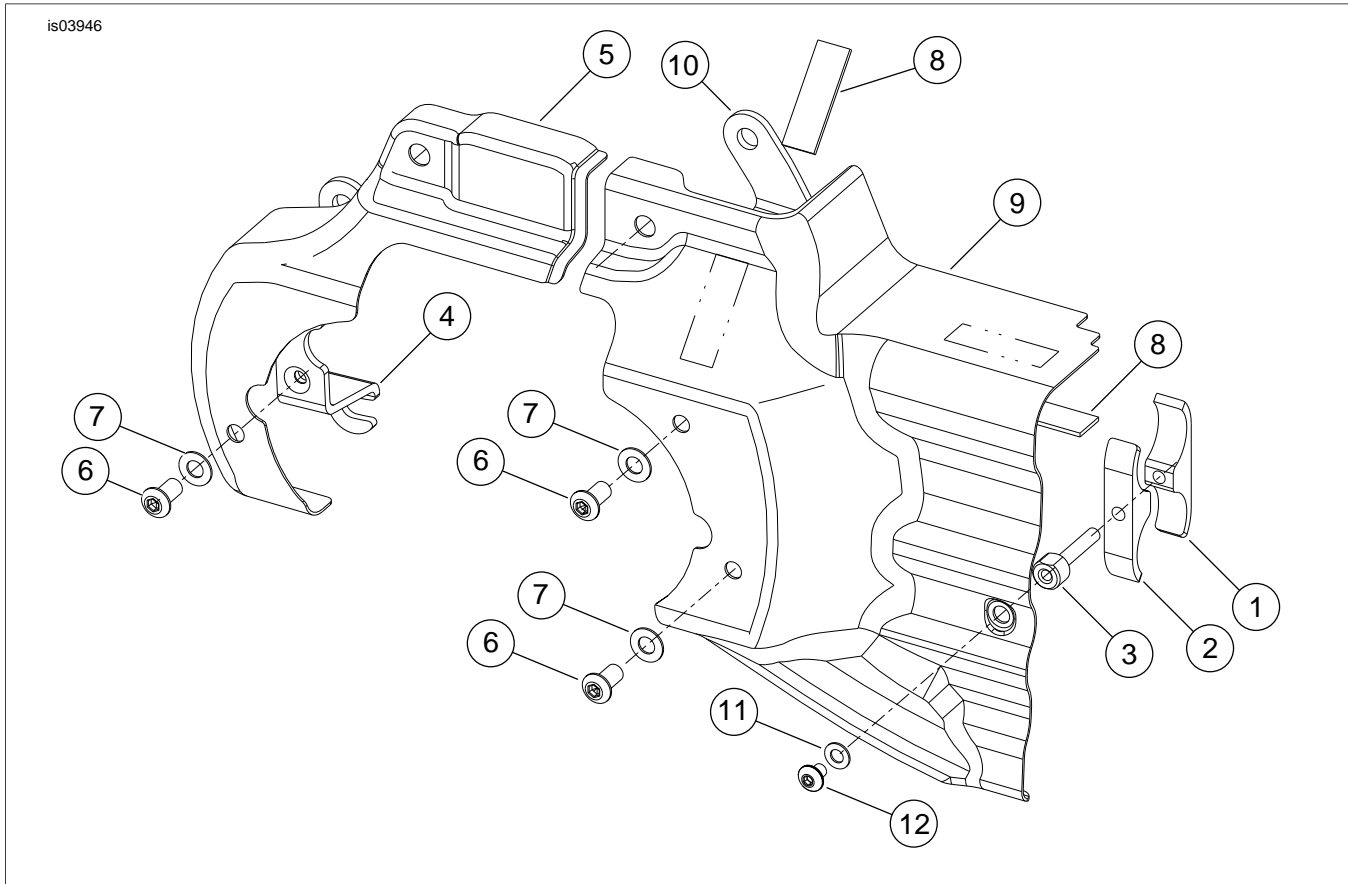

Figure 3. Engine/Transmission Interface Cover
See Figure 3 and Table 1.
3. See Figure 1, Figure 3 and Table 1. Apply a small amount of Loctite 243 (Blue) to threads of removed and loosened screws from Step 2. Install rear bracket (4) to transmission bearing housing loosely with screw (A). Swing hook of bracket to screw (B) and secure in place. Tighten screws to 13-18 ft-lbs (17.6-24.4 Nm).
5. See Figure 1, Figure 3 and Table 1. Install front bracket (10) to transmission bearing housing with screws (C) and (D) and fasten finger tight. Tighten screw (D) to 13-18 ft-lbs (17.6-24.4 Nm). Remove and retain screw (C) for later use.
6. See Figure 2 and Figure 3. Position inner bracket clamp (1) behind and on the cylindrical part of the oil connections at the engine crankcase as shown.
7. Position the outer bracket clamp (2) in line with the inner bracket clamp (1) and secure the two clamps together with the bracket clamp screw (3). Tighten the screw to 80-100 in-lbs (9-11 Nm).
9. See Figure 3. Apply Loctite 243 (Blue) to screw (Item E, Figure 1) removed in previous step and loosely mount rear interface cover (5) to transmission bearing housing. Apply a small amount of Loctite 243 (Blue) to screw (6), then
11. See Figure 3. Apply a small amount of Loctite 243 (Blue) to two screws (6), then install the two screws and two washers (7) to the front interface cover and front interface cover bracket clamp assembly.
12. Apply a small amount of Loctite 243 (Blue) to screw (12), then install screw and washer (11) through front interface cover to engage the bracket clamp screw (3).
13. See Figure 1 and Figure 3. Align covers as necessary and tighten screws (E) and (C) to 13-18 ft-lbs (17.6-24.4 Nm). Tighten all three screws (6) to 80-100 **in-lbs** (9-11 Nm). Tighten screw (12) to 40-50 **in-lbs** (4.5-5.6 Nm).